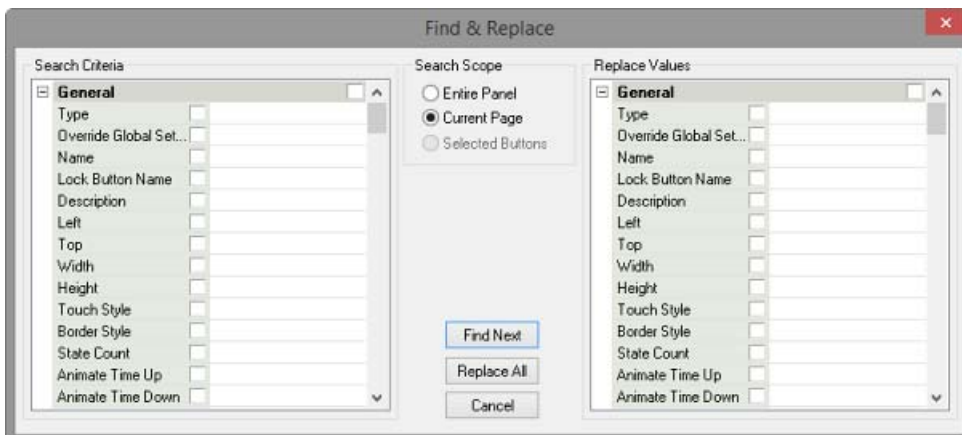

FIG. 350 Find & Replace dialog
1. Select **Edit > Find & Replace** (or click the toolbar button) to open the *Find & Replace* dialog (FIG. 350):